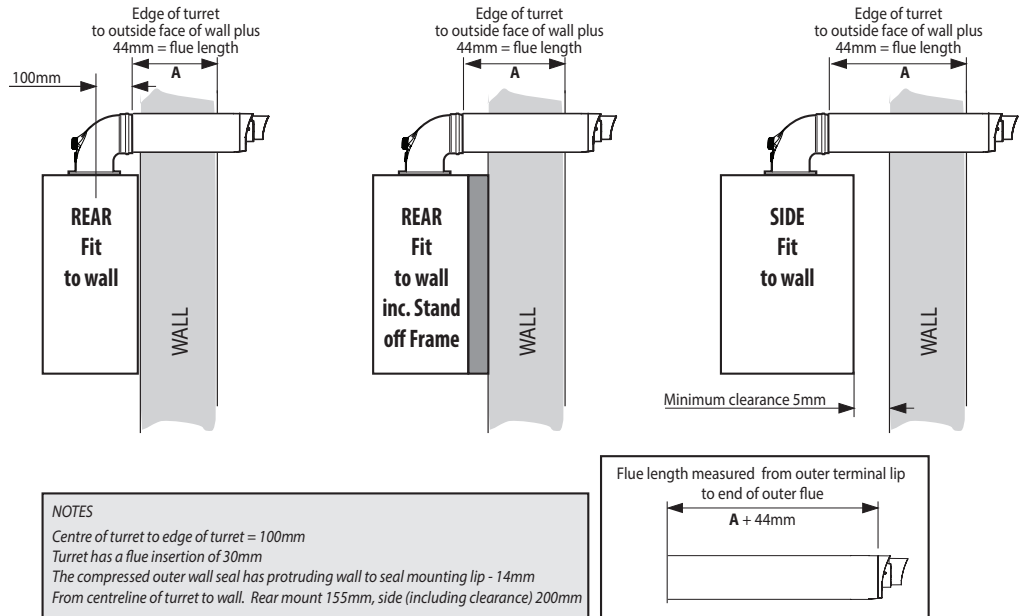

FIGURE 2
1. Measure the required cut flue length (A+44mm). If inside the dimensions shown in Figure 2 “1 Piece 600mm” proceed.